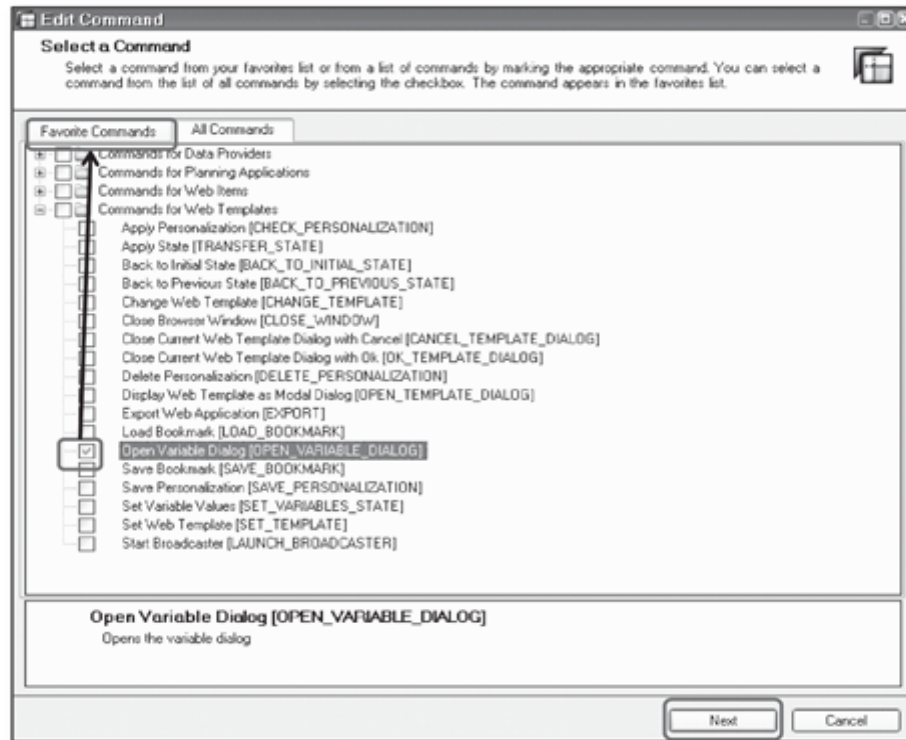

Figure 11.33 Command Wizard
There are two tab pages in the Command Wizard (see Figure 11.33):
- **Favorite Commands:** You can select and add the frequently used commands for your ready access in the Favorite Commands tab page. Simply select the checkbox next to a command to add it to the Favorites tab (see Figure 11.33).
Each of the available commands has its own specific parameters to be defined. When you select a command and click on the Next button (see Figure 11.33), the next screen displays all of the parameters that can be set for the selected commands. The